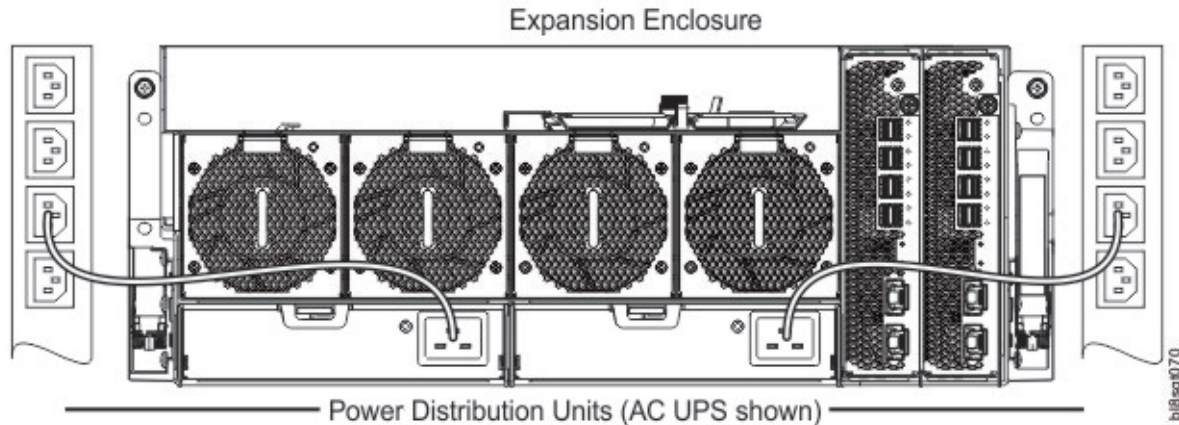

Figure 60. Typical AC power cord connection from PDU to PSU
- Figure 60 shows power connection from a single-core PSU to a PDU using C19 connectors.
1. Power on the system by connecting the power cables from the PSU to the PDU. See Figure 60 on page 60.